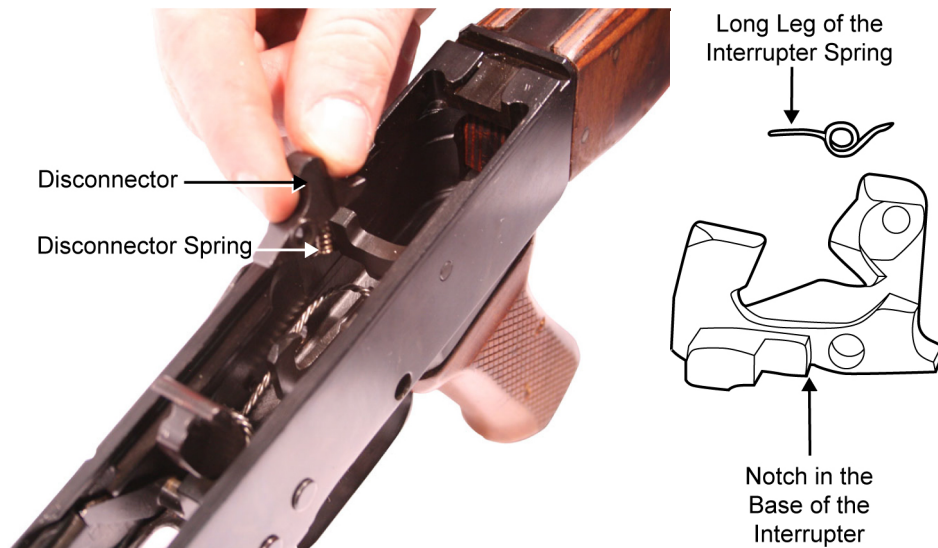

Figure 17. Removing the Disconnecter and Disconnecter Spring.
- d. Remove the disconnecter and disconnecter spring. (If present, remove the interrupter and interrupter spring.) Refer to Figure 17.